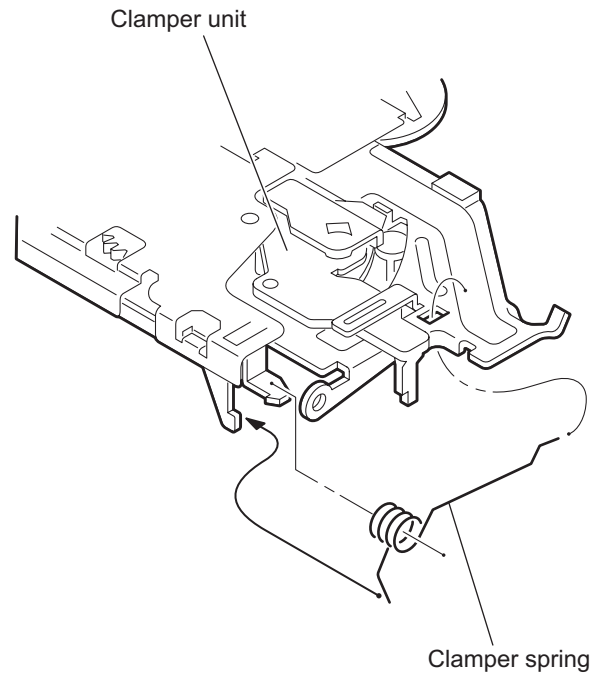

Fig.8
- (1) Attach the clamper spring to the clamper unit. (See Fig.8.)
When reattaching, temporarily hook the end of the clamper spring as shown in the figure to make the work easy. (See Fig.8.)